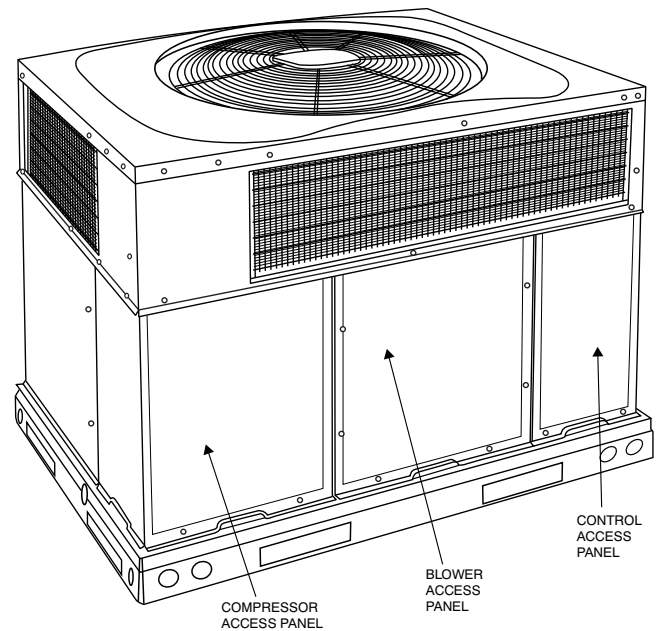
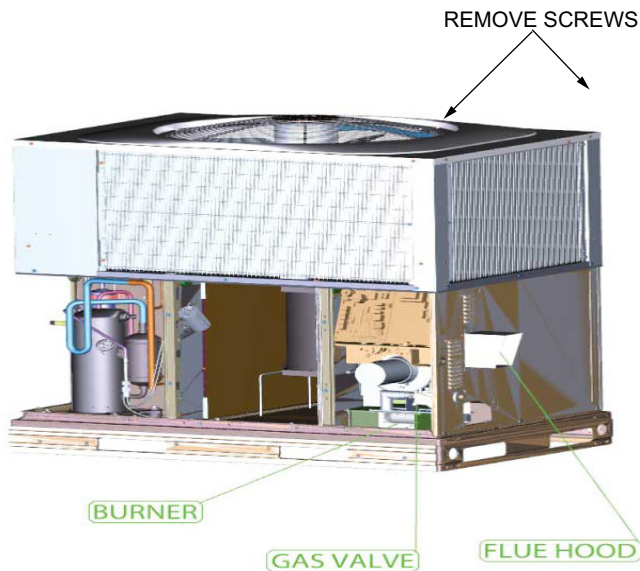
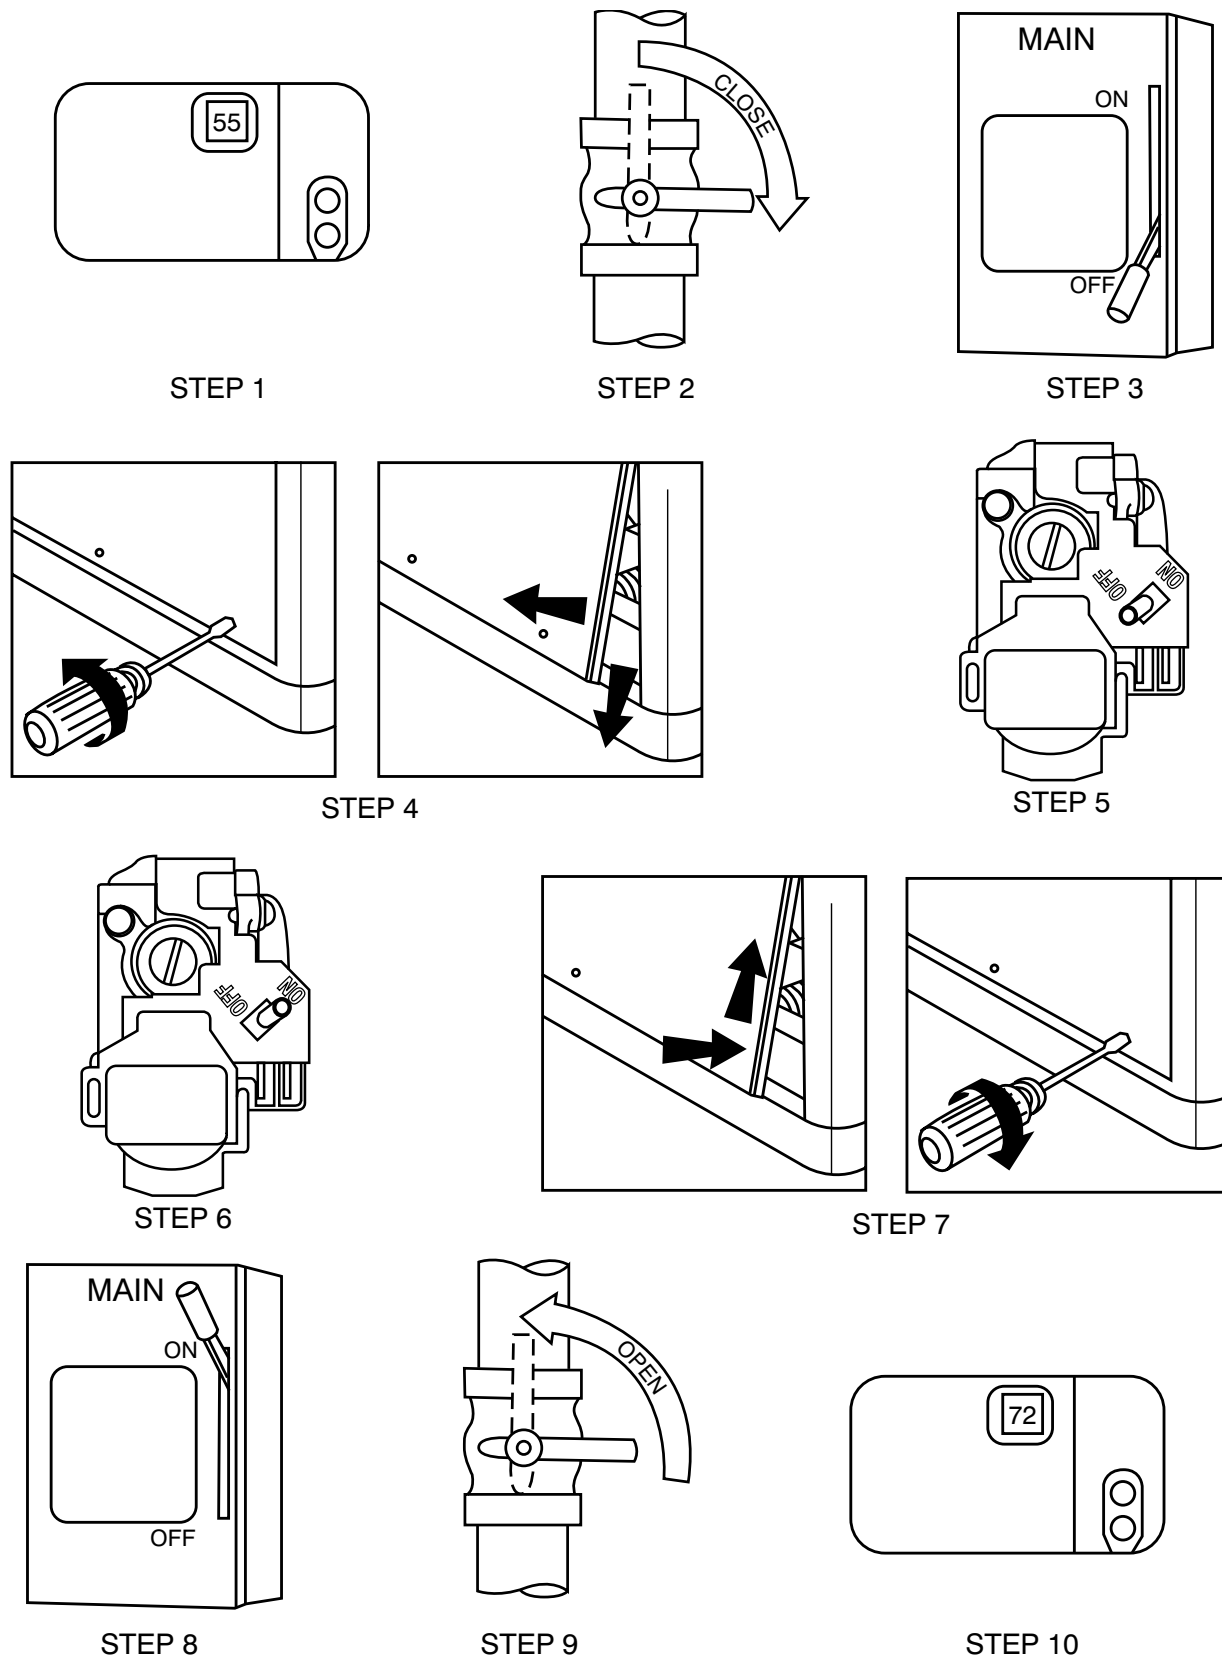

Fig. 2 – Unit Access Panel
Fig. 3 – Gas Heating/Electric Cooling Unit with Access Panel Removed
Fig. 4 – To Start Unit Gas Heat
Refer to Fig. 2 for location of unit front access panel. Refer to Fig. 3 for location of gas valve. Refer to Fig. 4 while proceeding with the following steps.
4. Remove the control access panel with a 5/16-in. nut driver. (See Fig. 2.)
4. Remove the control access panel. (See Fig. 2.)
To replace or inspect filters in accessory filter rack (See Fig. 2):